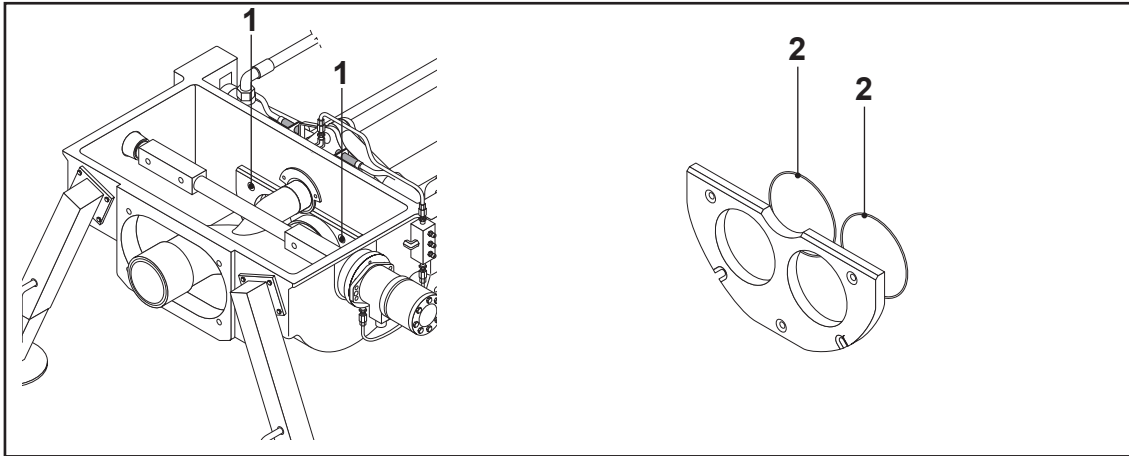

FIG.61
- Remove the 5 fastening screws (FIG. 61-REF. 1) and take out the wear plate.
- Apply two new O-rings (FIG. 61-REF. 2) lubricating them with grease (the grease keeps the rings in place). Do not apply too much grease because it creates thickness.